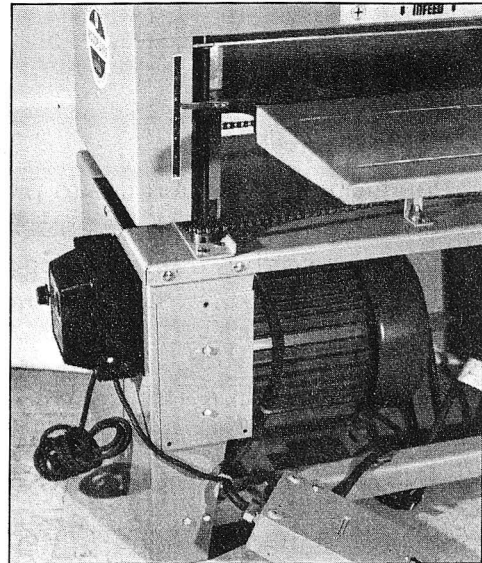

Fig. 3
3. Fasten the controller to the skirt with four 10-32 x 7/16" socket head cap screws and secure them with four 10-32 hex nuts. (fig. 3)